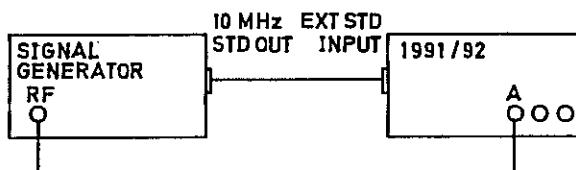

Fig 7.10 Connections for Channel A Input System Adjustment
- 30 (1) Switch the 1991/92 on. Select FREQ A.
(2) Select  $50\ \Omega$  impedance for channel A.
(3) Press the RESOLUTION ↓ key five times, until 000 is displayed.
- (4) Connect the test equipment as shown in Fig 7.10.
- (5) Set the signal generator output to 100 MHz at a level of 3.0 mV r.m.s.
- (6) Verify that the EXT STD indicator is lit, and that the channel A TRIG indicator is flashing.
- (7) Adjust R192 to obtain the most stable display indication of  $100.0 \underline{6} \pm 0.1 \underline{6}$ , with the GATE indicator flashing.